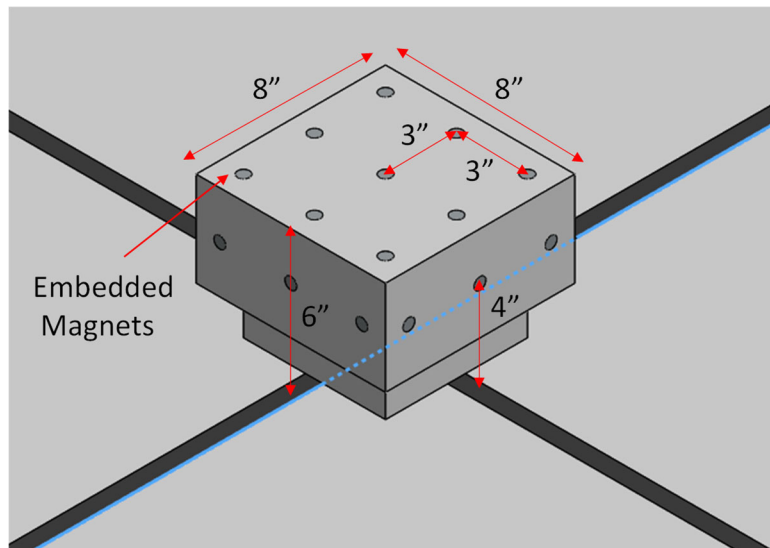

Figure 5. Chassis Dimensions
- Each team has one stationary chassis in the center of their 4'x8' playing area, with dimensions shown in Fig. 5. Each chassis has an 8"x8" square face on top which sits 6" above the floor of the playing field, with a 3x3 grid of magnets (spaced 3" apart on center). Each side of the chassis has a 4"x8" face with a 1x3 grid of magnets (spaced 3" apart, and 4" above the floor of the playing field). The middle spot on the top of the chassis will be occupied by *Link* and his control stick. Thus a total of 8 blocks can be magnetically attached on the top, and 3 blocks on each side. Successful robots will have mechanisms to position their colored blocks and attach them to the desired spots on the top and sides of the chassis to construct *Zonai* vehicles.